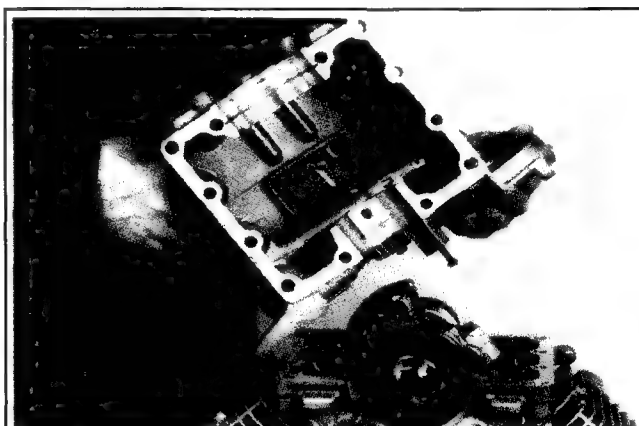

Figure 9-45. Removing Lower Crankcase Half.
4. Lift the lower crankcase half off the upper half. See Figure 9-45.